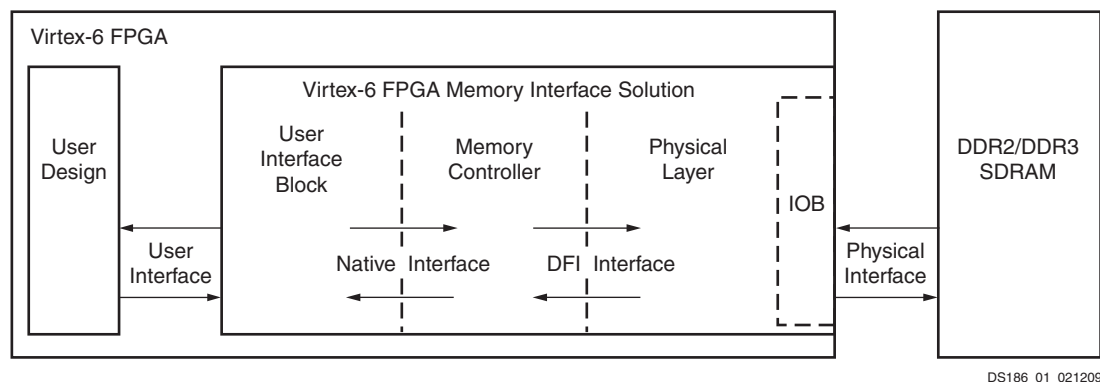

Figure 1: DDR2/DDR3 SDRAM Memory Interface Solution
Figure 1 shows a high-level block diagram of the Virtex-6 FPGA memory interface solution connecting a user design to a DDR2 or DDR3 SDRAM device. The physical layer (PHY) side of the design is connected to the DDR2 or DDR3 SDRAM device via FPGA I/O blocks (IOBs), and the user interface (UI) side is connected to the user design via FPGA logic. Alternatively, an AXI4 slave interface is available to connect to an AXI4 master (not shown in Figure 1). Refer to UG406, *Virtex-6 FPGA Memory Interface Solutions User Guide* for more details regarding the design.
As shown in Figure 1, the top-level functional blocks of the Virtex-6 FPGA memory interface solution include:
Figure 1 also shows a user design connecting to the memory interface. An example user design is provided with the core. Refer to UG406, *Virtex-6 FPGA Memory Interface Solutions User Guide* for more details regarding the design.